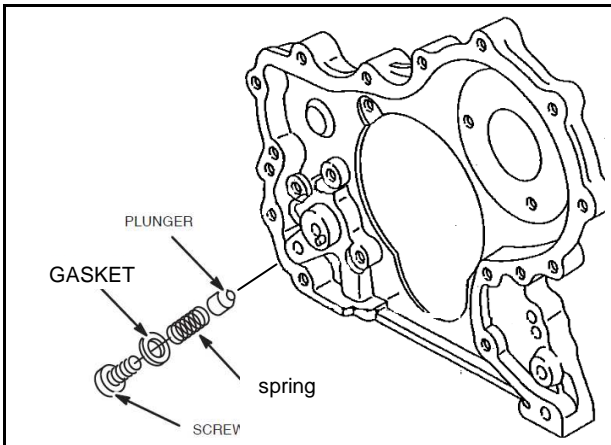

Fig. 6 - Checking Pressure Relief Valve
3. Remove and check pressure relief valve assembly, Fig. 6.